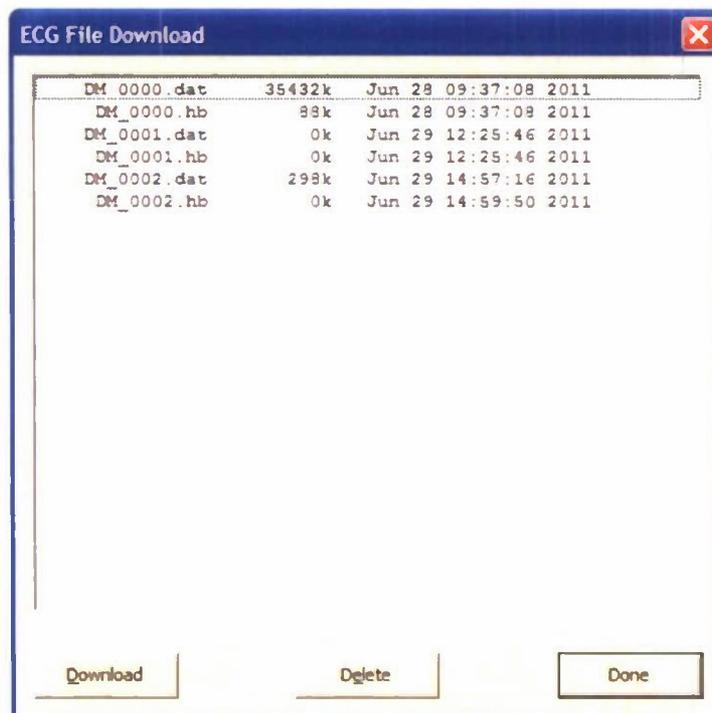

Figure 6. Dialog Box Used for Downloading or Deleting Data from the DHMS Sensor
Downloading Data. After completing a recording session, the PC application can be used to download the data from the sensor. Simply choose the **Commands** menu item and select **File Download...** Figure 6 shows the dialog box that appears to allow the user to select which data files to download from the sensor. Note that similarly-named files appear in pairs. One pair of files is created for each recording session. The file with the .dat extension holds the raw ECG data, while the smaller file with the .hb extension holds the heartbeat and heart rate values. The user can select one or more files to download and then press the **Download** button at the bottom. The user can also delete files from the sensor using this dialog box. Since the downloading process uses the wireless interface, the download can take a lot of time (one hour to download four hours of raw ECG data). It is recommended that longer files be downloaded while the sensor is charging in its dock.
2. Select Files to Download. As shown earlier in Figure 6, the DHMS software presents a listing of all of the data files stored in nonvolatile memory on the DHMS sensor. Each recording session has a pair of files. The raw ECG data is stored in the .dat file and the heartbeat (and heart rate) data is stored in the .hb file. Select the file that you would like to download. Multiple files can be selected holding down the **Shift** key while clicking.